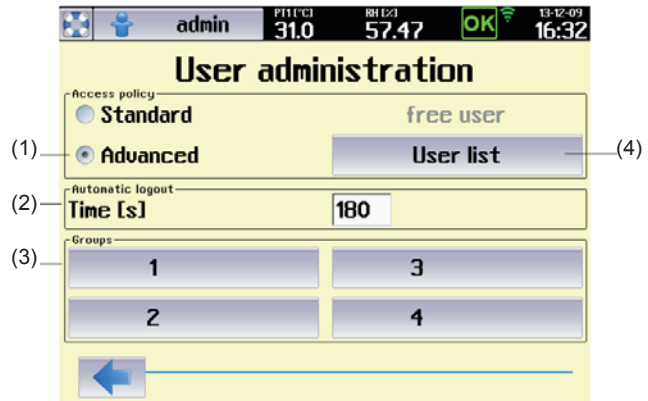
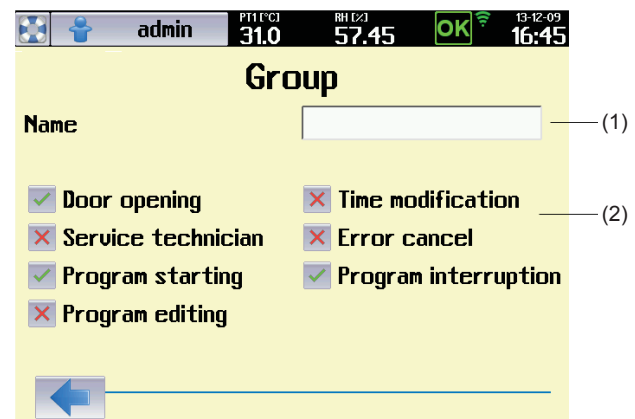
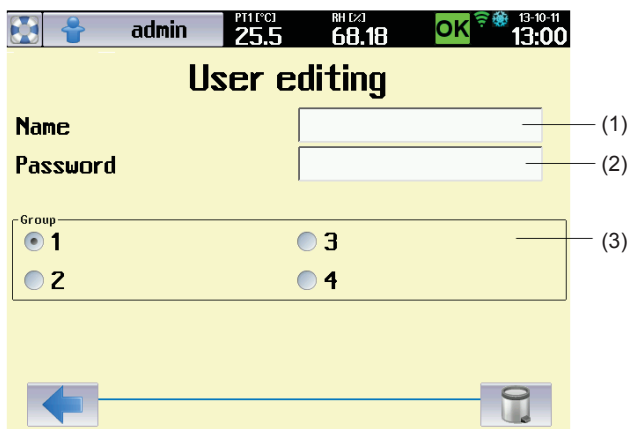

Fig. 16
Fig. 17
Fig. 19
- (1) Selection of user administration mode.
- (2) Automatic logout time.
- (3) Definition of groups.
- The administrator may place operators in up to four groups with different user rights, see Fig. 17
- (4) Definition of users.
- This button displays a list of all users. See Fig. 18. Login names and passwords may then be allocated for individual users (Fig. 19).
Definition of group, See (3), Fig. 16.
- (1) Group name.
- (2) Definition of group access rights.
User editing. See (4), Fig. 16.
- (1) Button for defining administrator password.
- (2) Buttons for defining operator names and passwords.
- Buttons 2 – 100 are used to define operator login names and passwords. See Fig. 19.
- (1) Operator name
- (2) Operator password.
- (3) Allocating operator to group
- See Fig. 16, Fig. 17.